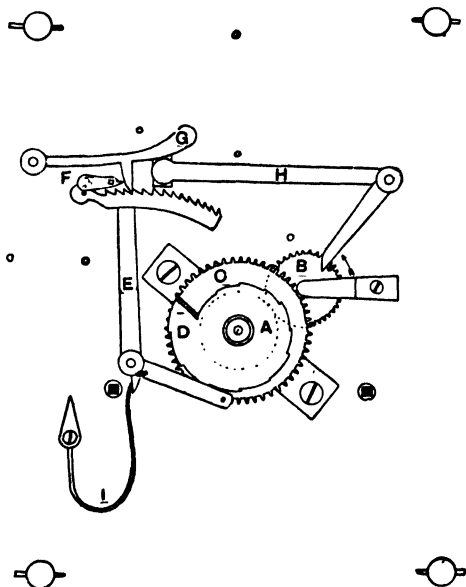
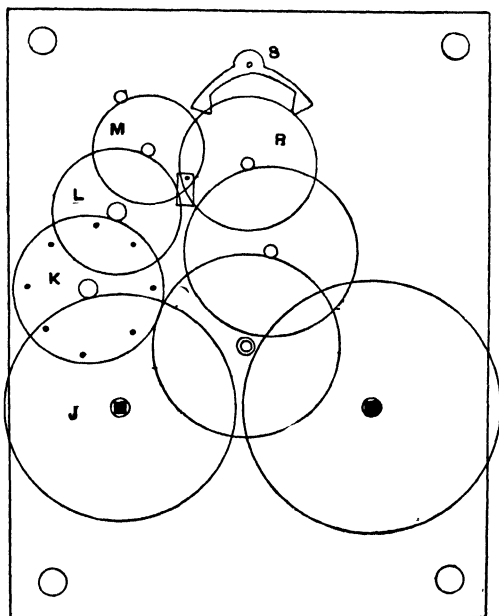
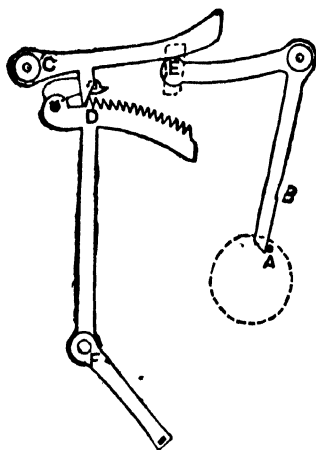

Fig. 69.—Striking Movement of Grandfather Clock
Fig. 70.—Train of Wheels of Grandfather Clock
Fig. 76.—Rack, Rack Hook and Warning Piece
PHOTOGRAPHS of the movement of a grandfather striking clock are presented by Figs. 68 and 68A, whilst Fig. 69 is a diagram of a typical movement of the same general kind, the dial having been removed, and shows the usual arrangement of the striking mechanism. Fig. 70 is a key to the train of wheels between the plates, which wheels cannot be shown in the other diagram.
**The Sequence of Operations.**—When cleaning the clock, before taking anything apart, place the movement with the dial removed, as in Fig. 69, in its case with the hands on and turn them round, causing the clock to strike. Notice exactly what happens, and from it learn how to put the parts together again. On turning the minute hand, as the hour is approached a pin in the minute wheel B lifts the tail end of the warning lever H, which in turn lifts the rack hook G. The rack E is thus liberated and falls until its lower end rests against one of the steps of the snail D. The depth of these steps regulates the number of blows struck at each hour. Before the rack fell, the running of the striking train of wheels was prevented by the gathering pallet F resting upon a stop pin in the rack. But when the rack falls the gathering pallet is released
and the train runs until a pin in the warning wheel *m* (Fig. 69) catches against a stop block attached to the warning lever. This run is called the warning, and takes place a few minutes before the hour. The minute hand continuing to advance, the pin in the minute wheel passes the end of the warning lever, and at the hour the lever falls again and liberates the warning wheel. The striking train then runs, and at each revolution of the pallet wheel *l* the gathering pallet gathers up one tooth of the rack and a pin in the pin wheel *k* causes one blow to be struck. Continuing to run and strike, the rack is at last all gathered up and the gathering pallet once more comes to rest against the stop pin in the rack. This action should be studied closely until the functions of each part are thoroughly understood.
**Taking Movement Apart.**—Then take the movement to pieces. First take out the pallets *s* and crutch. Then remove the rack, hour wheel *c* (Fig. 69), warning lever, rack hook, gathering pallet, minute wheel, and cannon pinion *a*, in the order named. Take off the bell and bell standard, and take the plates apart. Be careful to keep the striking train of wheels separate from the going train.
**Re-assembling.** — The movement may now be put together again, a little oil being given to the clicks and click springs on the barrels. When the bell hammer and all the wheels are between the plates and in place, try each to see whether the pivots have much side play in the pivot holes. The most important wheel is the escape wheel R (Fig. 70). If its pivot holes are very wide, they must be bushed, as described on an earlier page. The wire has a central hole in it, and this gets over the difficulty of re-drilling. A bushed hole is smoothed off level inside and opened out by reamering to fit the pivot quite easily but without side play. The pallet holes, if wide, must also be bushed.
Next oil the front pivot holes with good clock oil, and put on the cannon pinion. Put the minute hand on it and turn it round to see when it strikes. See that when the warning lever falls the minute hand points exactly to the hour; the teeth of the cannon pinion can be shifted in the minute wheel to adjust this. Do not forget the flat brass spring under the cannon pinion. Then pin on the rack, rack hook, warning lever, etc., and put the hour wheel and snail on in such a position that the rack tail falls in the centre of a step at the hour. This can be regulated by shifting the teeth in the minute pinion. Oil the lifting pins in the pin wheel, the hammer spring where it touches the hammer, the rack spring 1 (Fig. 69) where it touches the rack, the stop pin in the rack, the warning pin in the warning wheel, and the lifting pin in the minute wheel. Also oil the back pivots. Then
French clocks and in nearly all English grandfather and bracket clocks (compare Fig. 75 with Fig. 69). The letter references are as follows: A is the striking main wheel, B pin wheel, C pallet wheel, D warning wheel, E fly, F going main wheel, G minute wheels, H centre wheel, I third wheel, J 'escape wheel, K pallets, L minute wheel cock, M warning lever, N lifting piece of warning lever, O rack hook, P gathering pallet,
Move the minute hand slowly to the hour to test the warning and striking, and make a note of any part that requires correcting or repairing, as the clock is taken to pieces. A clock that stops in the going is seldom wrong in the striking work. The striking part should be examined before taking the plates apart. Fig. 76 shows a detail of the most important part, the principle being the same as in Figs. 69 and 75, although the small details vary. Move the pin A (Fig.
wheel, as shown in Fig. 76, and try the warning. The warning pin, which is in the wheel between the plates, should have half a turn before it falls on the pallet E. To correct this, lift the top plate, move the wheel round a tooth, and replace it in the hole.